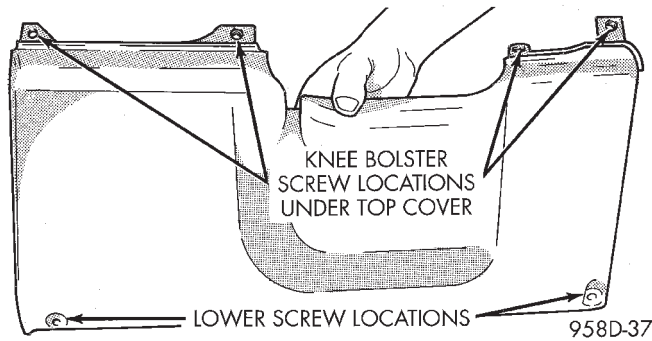

Fig. 7 Knee Bolster Attaching Screw Locations
the screws (Fig. 7) attaching the top of the knee bolster to the dash panel.
(8) Remove screws attaching the knee bolster to the instrument panel (Fig. 7).
(19) Install lower instrument panel knee bolster onto the lower instrument panel. Install and securely tighten the knee bolster to instrument panel attaching screws (Fig. 7).
(20) Install the instrument panel top cover.